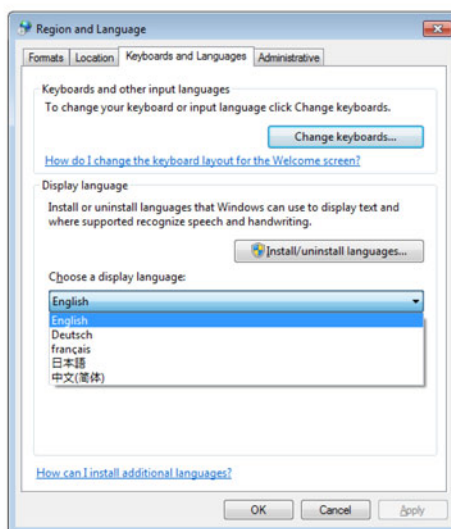

Figure E.31: Choose a display language
- 4 Windows® 7 will install the language, as shown in Figure E.31.